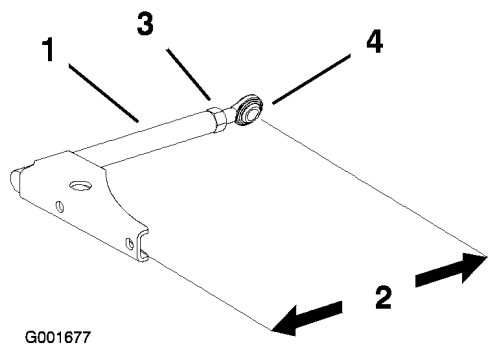

Figure 48
- Loosen the jam nut and rotate the ball joint counterclockwise, one turn at a time (Figure 48).
- Adjust each side the same amount. Each push arm should have a nominal length of 13-1/2 inch (34 cm) at a 15 degree twist (Figure 48).